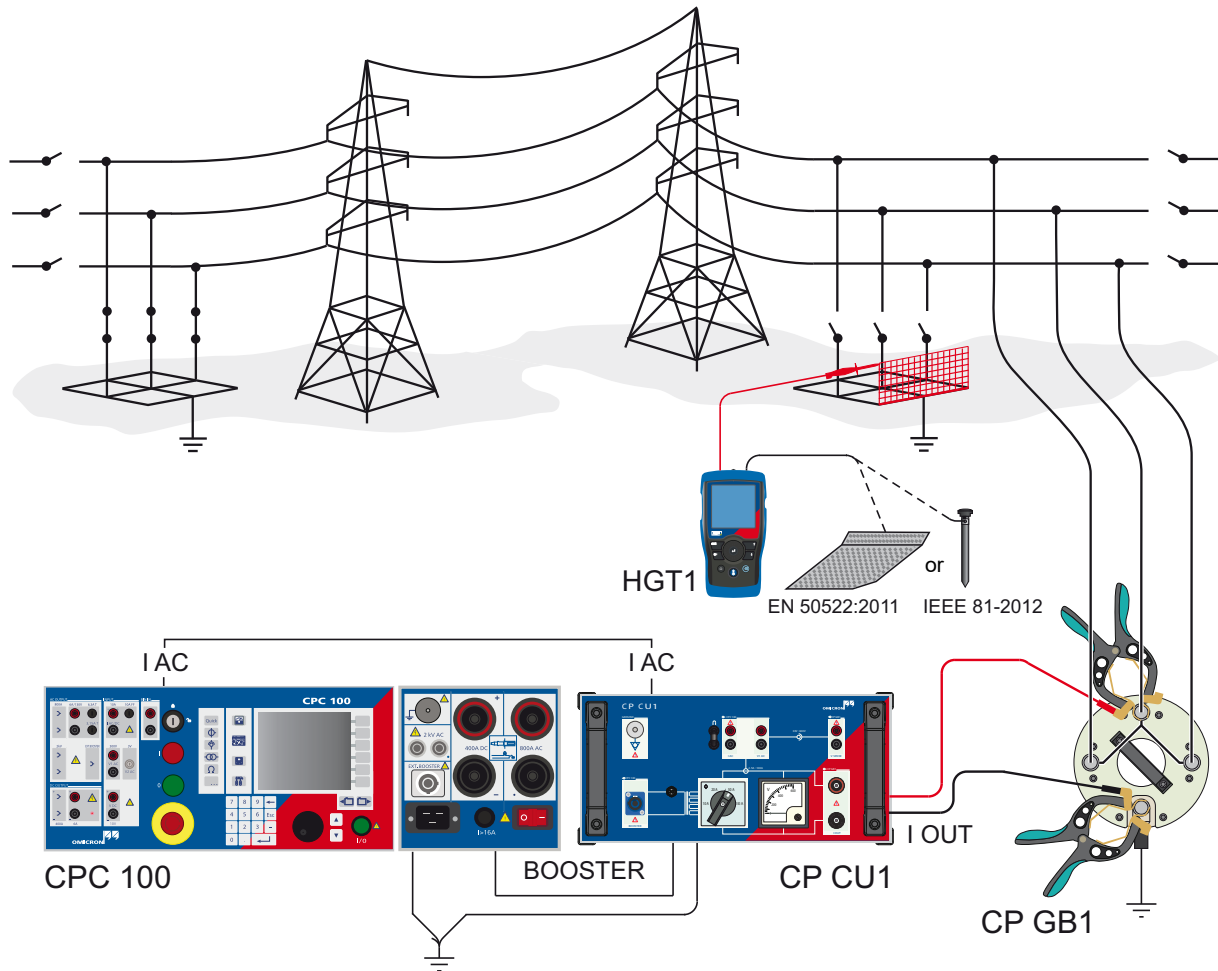

Figure 8-1: Step and touch voltage measurement setup
2. If criterion 3 is met, establish the measurement setup as shown in Figure 8-1 below.